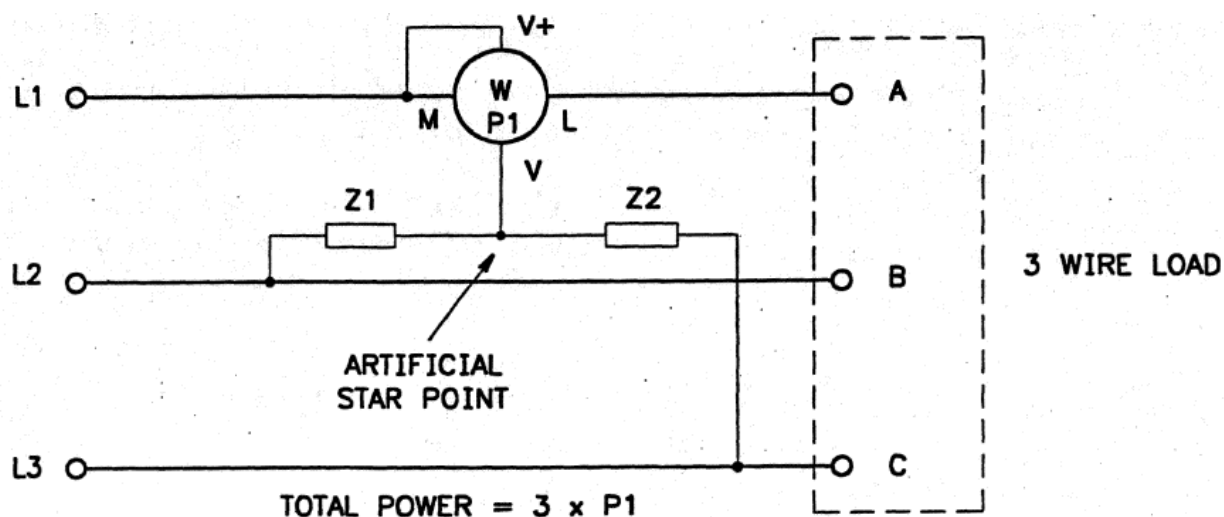

Figure 2 - One wattmeter method - three wire
- a. **Three-Wire Circuit** One wattmeter is connected as shown in Figure 2. An artificial neutral is provided by using two impedances which are equal in impedance to the impedance of the voltage coil of the wattmeter. If the circuit is unbalanced, the wattmeter must be connected (or switched) into each phase in turn – the total power is then the sum of each of the three wattmeter readings.